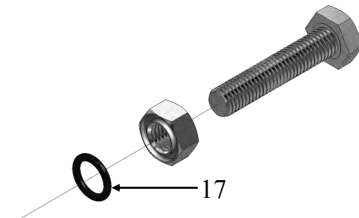

Fig. 8.4
- e. Stop O-Rings: will have the smallest O-Ring diameter (#17 fig. 8.4).
- c. Flange Bearing (#4 fig. 8.4)